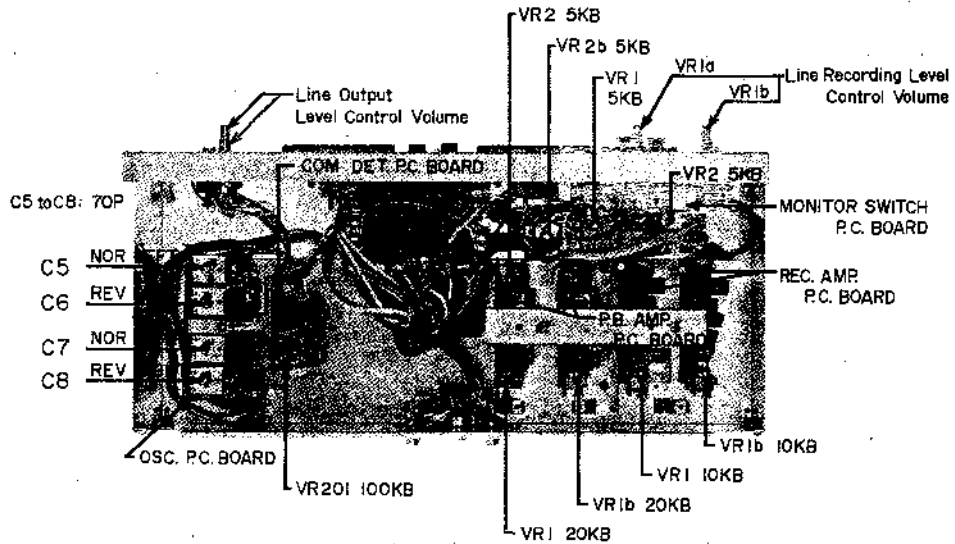

Fig. 16
(See Fig. 16)
- 2) Adjust OSC. P.C. Board semi-fixed capacitors C-5 to C-8 (70P) so that a 10 kHz signal output level is within $+1/-0$ dB in relation to 1,000 Hz. (See Figs. 16 & 17)